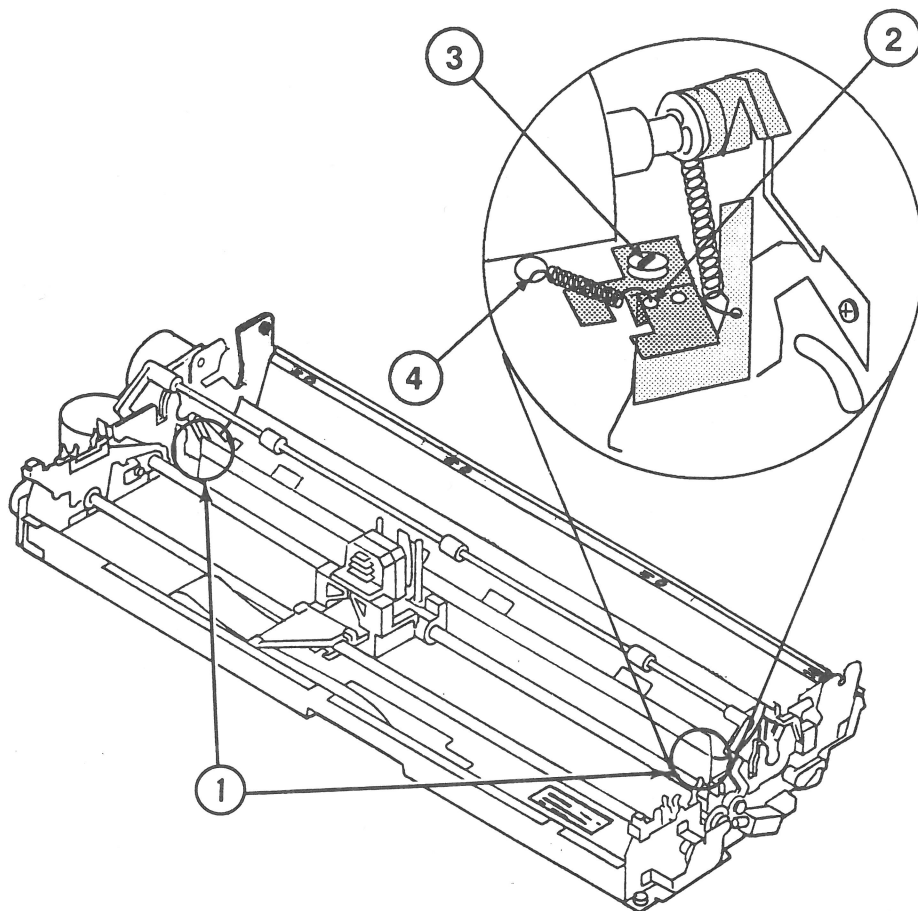

FIGURE 10
1. Locate and remove the Phillips screws that hold deflector stop plates (Figure 10, #1) on both the right and left sides of the paper guide plate. Discard the old screws and stop plates.
2. Attach one end of the new spring to the new left deflector plate (Figure 10, #2).
3. Position the new left deflector plate, and screw in the set screw (Figure 10, #3). Do not tighten the screw.
4. Connect the other end of the spring to the round hole in the paper guide plate (Figure 10, #4).